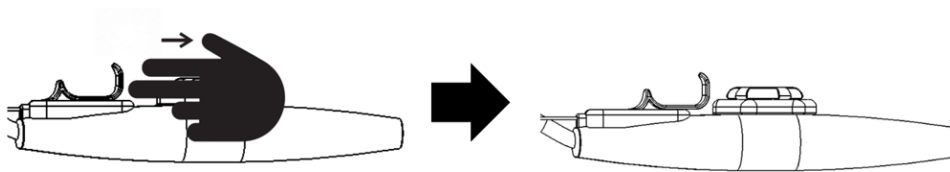

Fig. 9
8. Pull the trigger until fixation of the TEE probe is indicated, You will hear a click (See Fig. 9). Ensure fixation before further use.